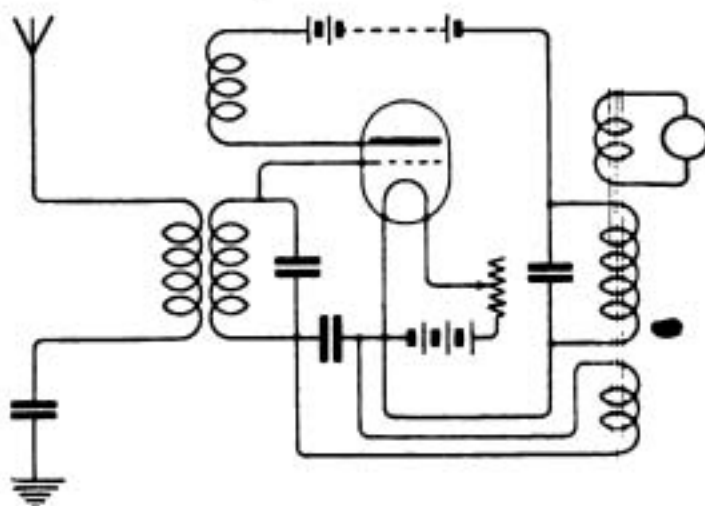

Fig. 2.
**F.W.F. (Ilford)** asks (1) For a simple way of connecting up a valve set, (2) For a 2-valve receiver. (3) The plate voltage required for an R valve. (4) If two sets of H.T. and L.T. batteries are required for a 2-valve receiver.
(1) See page 662, December 11th issue.
(2) See Fig. 2, page 755, of the Jan. 22nd issue.
(3) About 75 volts.
(4) No. See reply (2) and many other circuits in these columns.
**A.K.H. (Birmingham).**—(1) and (2) Your wavelength range will depend entirely on the sizes of your coils, of which you say nothing except that they are "slab" inductances as advertised in the magazine. This is not enough information for us to identify them.
(3) Fig. 2, page 662, December 11th issue, with the addition of a grid condenser and leak, if desired, should be quite suitable.
**H.S. (Cricklewood)** sends a diagram of his set and asks (1) If the crystal circuit sketched is correct. (2) What dimensions and size of wire should the aerial tuning inductance have in order to tune from 100 to 1,000 ms. (3) Could signals from the Cricklewood Aerodrome Station be received on an indoor loop aerial without altering the apparatus. (Note.—The Station is only 300 yards away.)
(3) See Fig. 2.
(4) See Eccles Handbook, 1918 edition, page 328.
**H.M.T. (Newcastle-on-Tyne).**—(1) Your sudden failure to get results previously obtained can only be due to a breakdown in your apparatus, or possibly to damp. We can only advise you to continue to test different parts of your gear. Are you sure of your valve and your H.T. battery? The former may have grid and filament in contact. Your set seems quite sound.